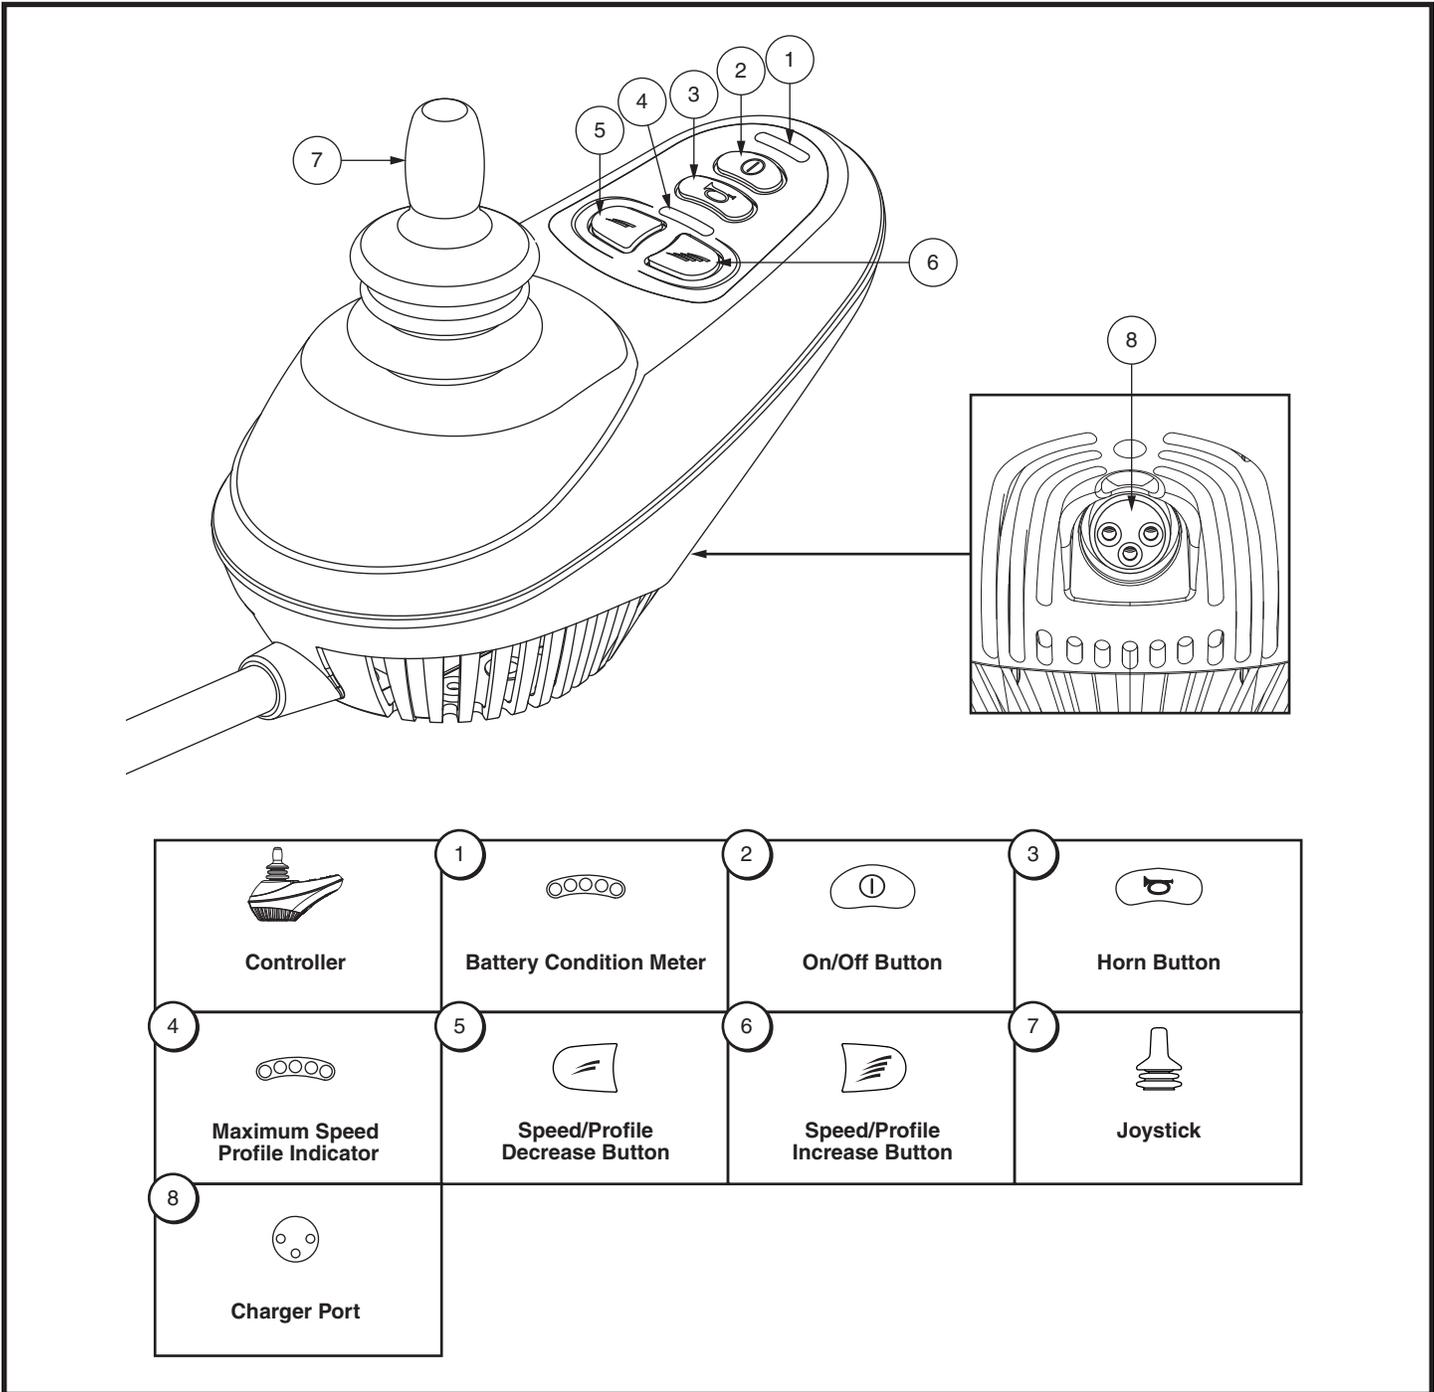

Figure 1. newVSI Components and Connections
**Figure 1** provides information on the newVSI components and connections. Use this diagram to familiarize yourself with the function and location of each component before using the newVSI Controller.
The newVSI Controller is used to operate your power chair and all of its components. See figures 1 and 2.
The keypad is located directly in front of the joystick. It contains keys that you will use to control your power chair. See figure 1.
The battery condition meter is located in front of the joystick. **See figures 1 and 3.** This is a 5-segment illuminated display that indicates that the newVSI is powered on and also gives the battery status, the newVSI status, and the electrical system status.